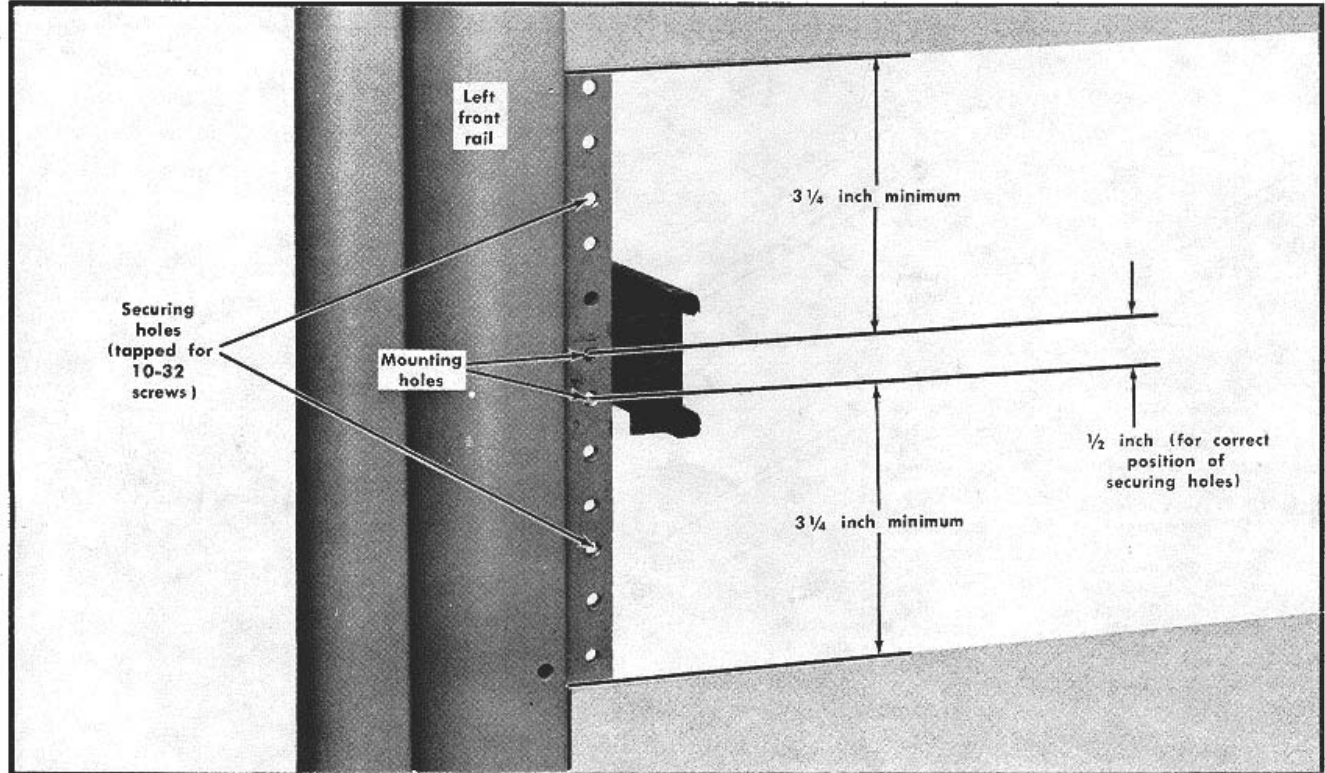

Fig. 6-5. Locating the mounting holes for the stationary sections. Same dimensions apply to right stationary section.
1. Select the proper front-rail mounting holes for the stationary sections, using the measurements shown in Fig. 6-5.